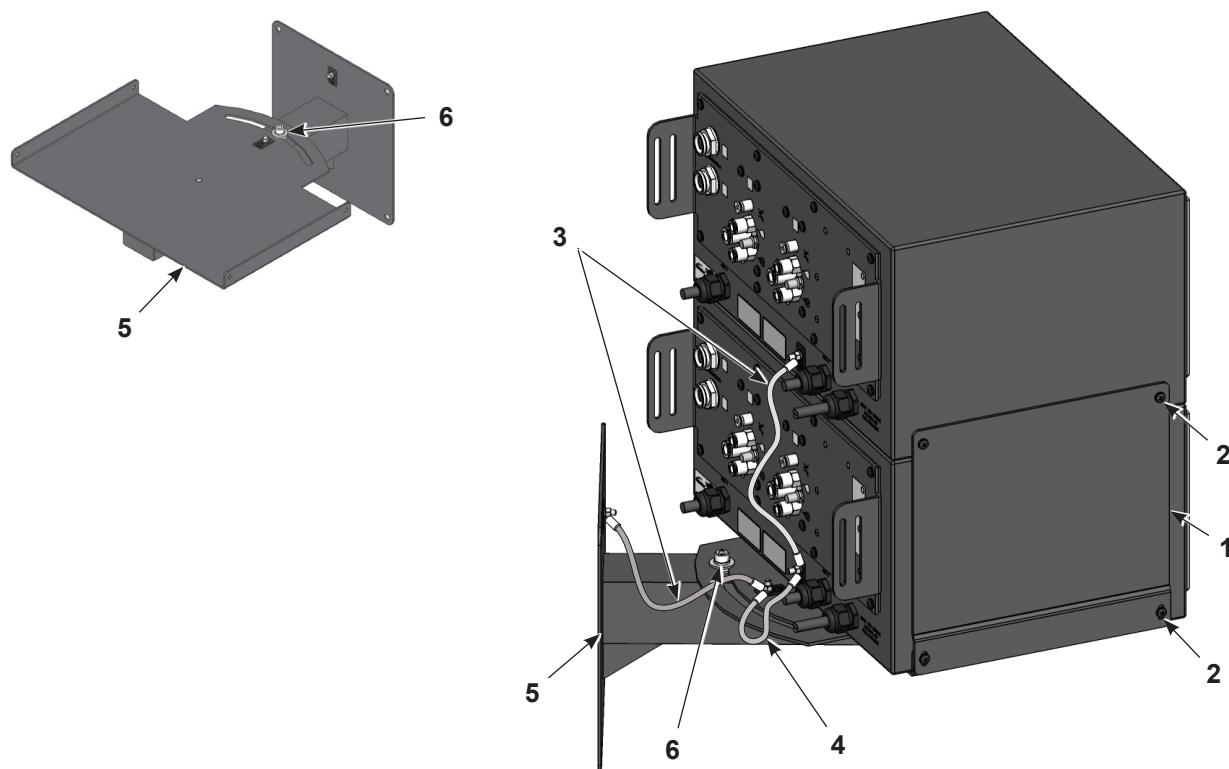

Figure 3-3 Dual Controller Mounting with Optional Wall-Mount Bracket
1. See Figure 3-3. Install the wall mounting bracket (5) on a vertical surface strong enough to bear the weight of the controller(s) and mounting bracket. Use appropriate fasteners.
3. If installing only one controller, secure it to the bracket flanges with four M5 x 12 pan head screws (2).
4. If installing two controllers, use four M5 x 12 pan head screws (2) to install the slotted ends of the stacking brackets (1) and controller to the tray. Do not tighten the screws.
6. Use one 12-in. ground wire (3) to ground the top controller to the bottom controller. Use the 4-in. ground wire (4) to ground the bottom controller to the wall mount tray. Use the other 12-in. ground wire to connect the tray to the mounting plate.
7. Loosen the tray swivel bolt (6) to rotate the tray to the desired position, then tighten the bolt.